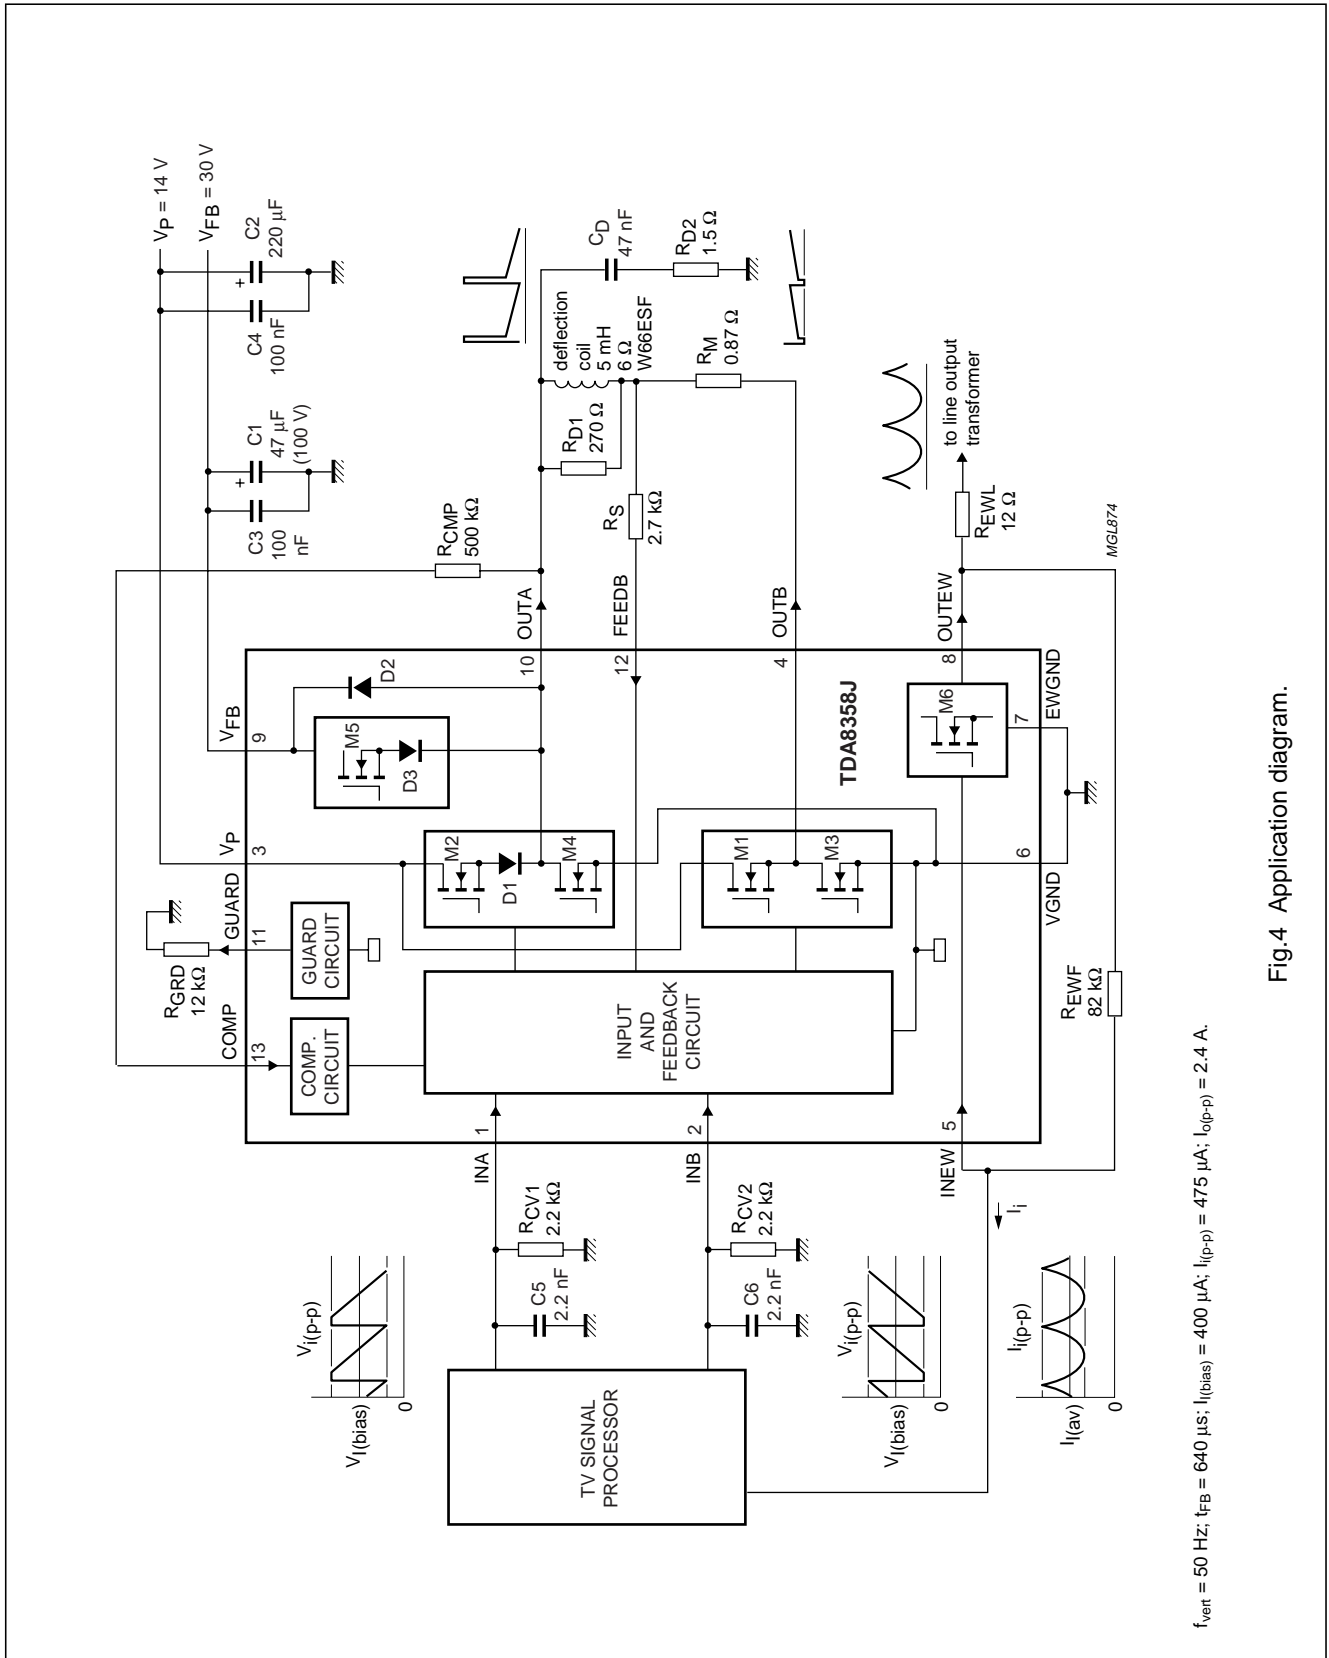

Fig.4 Application diagram.
- For $I_o = 100$ mA and a voltage of 9 V at R_{EWL} connected to the line output transformer, the east-west amplifier input current (see Fig.4) is $I_i = 300$ μ A.
- For $I_o = 500$ mA and a voltage of 21 V at R_{EWL} connected to the line output transformer, the east-west amplifier input current (see Fig.4) is $I_i = 350$ μ A.